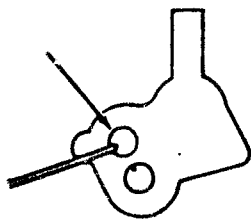

Fig. 3
2. Hook small end of spring into front most carburetor lever hole (fig. 3). Then insert governor rod into carburetor lever and install retaining clip.